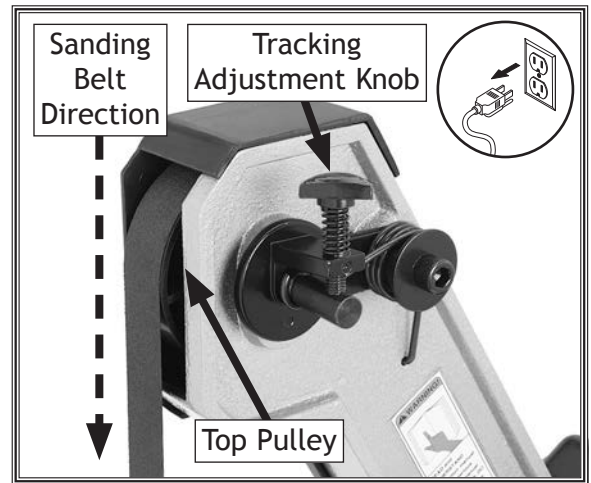

Figure 29. Sanding belt tracking adjustment.
2. While facing tracking adjustment knob, turn sanding disc clockwise by hand to move belt downward. Observe sanding belt as it moves over top pulley (see **Figure 29**).
3. Firmly press down on tracking adjustment knob (see **Figure 29**) to remove tension from sanding belt.